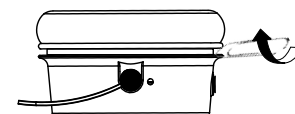

Figure 13
3. While maintaining contact between the Clip and Ear Cup, carefully twist the Clip with out scratching the headphones. The Ear Pad will pop off. Refer to figures 13 and 14.